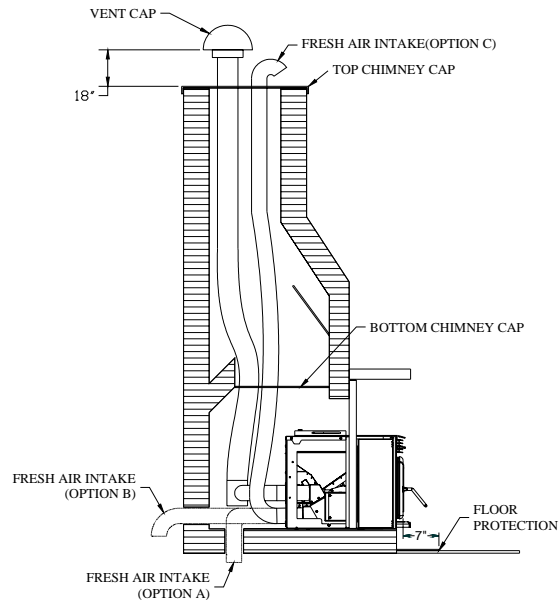

Figure 23
4. You can install a fresh air intake as per Figure 23: